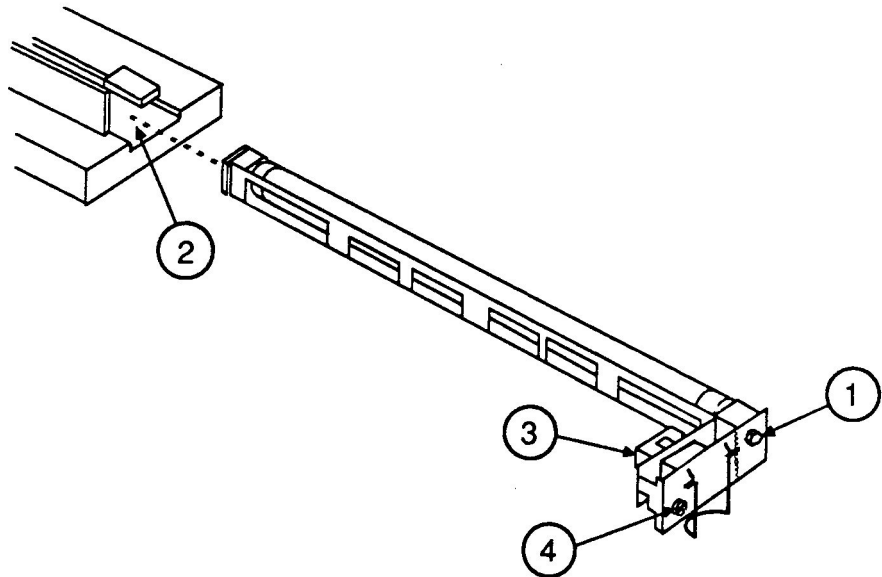

FIGURE 16
12. Slide the light and light holder (Figure 16, #1) onto the optical block, and push the assembly all the way in. Make sure that the light holder assembly's bottom edge slips under the tab on the optical block slot (Figure 16, #2).
13. Engage the electrical connector (Figure 16, #3) by screwing the Phillips screw (Figure 16, #4) all the way in. (This action pulls the two connectors together.)